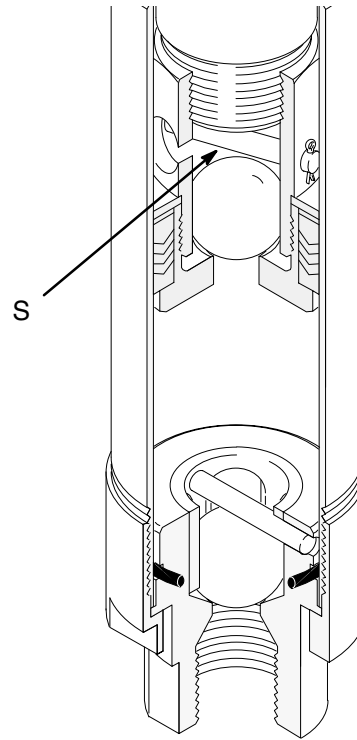

Fig. 3
The fluid piston valve is factory set for low volume pumping of light viscosity fluids. For heavier fluids or more volume, increase the ball travel by moving the pin (S) to a high set of holes. See Fig. 3.